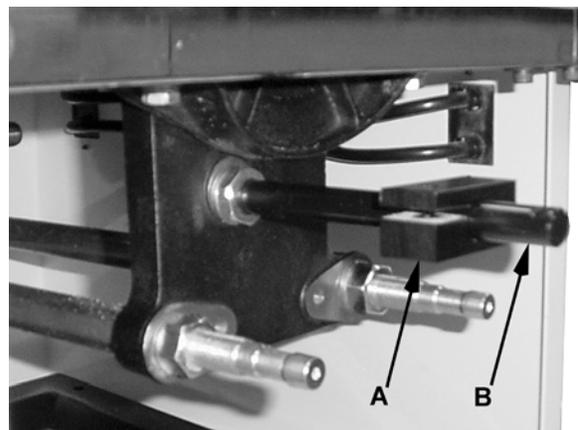

Figure 14
2. Slide the locating block (A, Fig. 14) onto the splitter rod (B, Fig. 14).
- Place two each M8 flat washers and lock washers onto two M8 x 16 hex cap screws (E, Fig. 14) and insert into the two holes on the locating plate.